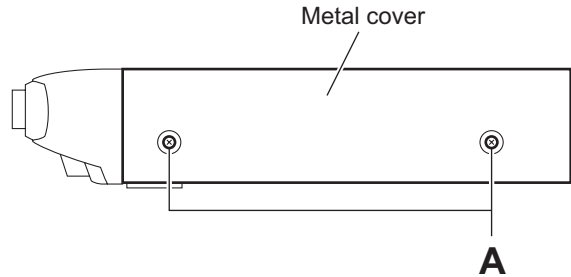

Fig.1
#### 3.1.1 Removing the metal cover (See Figs. 1 to 4)
- (1) From the both sides of the main body, remove the four screws **A** attaching the metal cover. (See Figs. 1 and 2.)